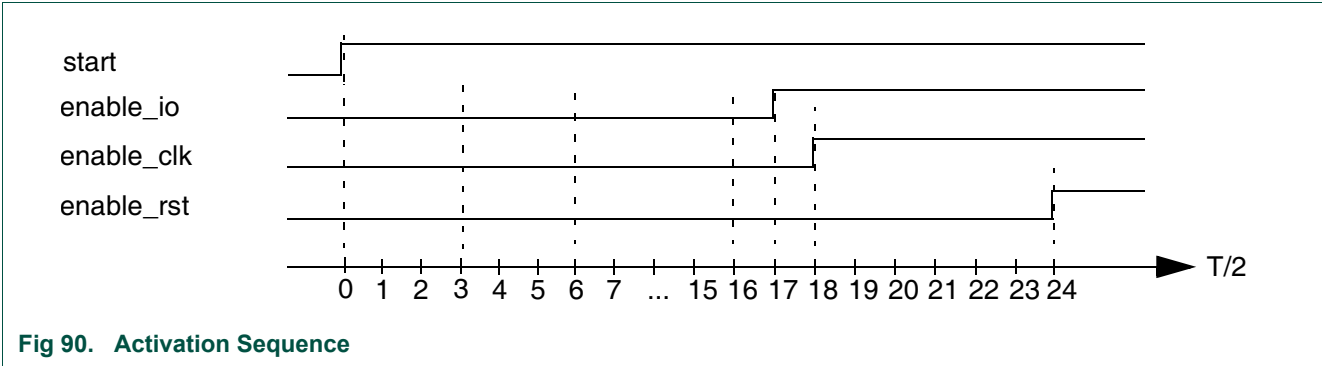
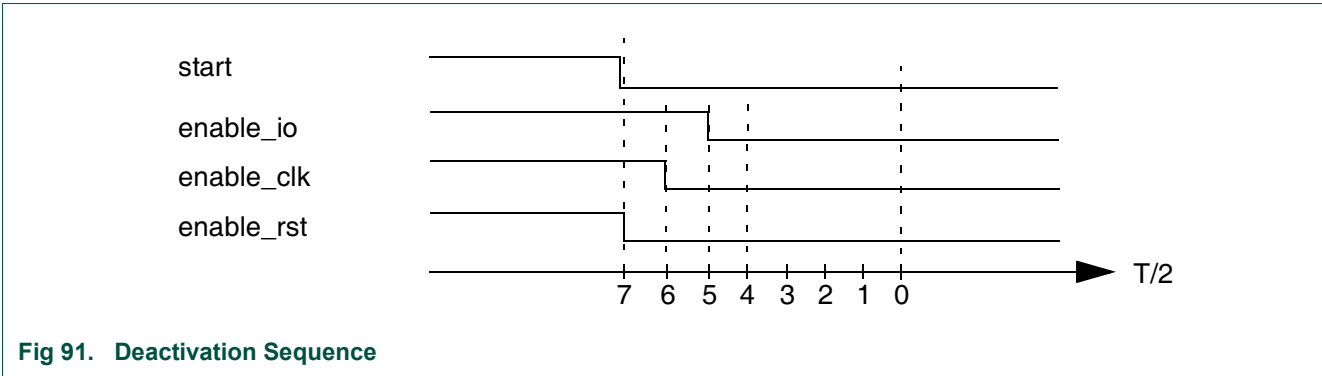

Fig 90. Activation Sequence
Fig 91. Deactivation Sequence
- The activation sequence is stopped between 0 and the rising of enable\_io on Figure 90. The deactivation sequence will start from 4T/2 on Figure 91 and go to 0.
- The activation sequence is stopped between the rising of enable\_io and the rising of enable\_rst on Figure 90. The deactivation sequence will start from 6T/2 on Figure 91 and go to 0.
- The activation sequence is stopped after the rising of enable\_rst on Figure 90. It is the normal case: the deactivation sequence will start from 7T/2 on Figure 91 and go to 0.